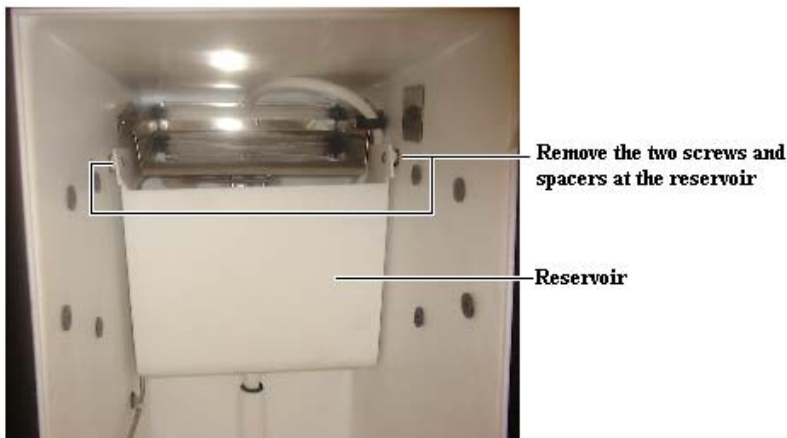

Figure 6.2
6. Remove the two screws and spacers that secure the reservoir (see figure 6.2)